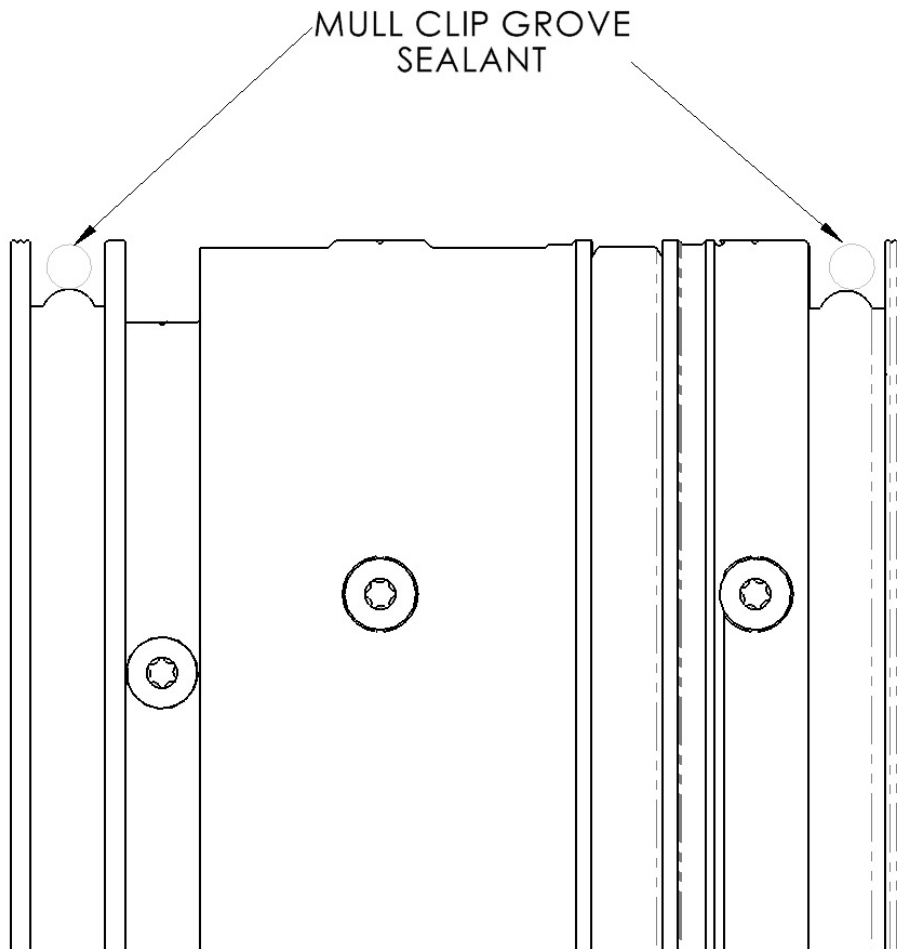

Figure 3
1. Apply a 1/4" diameter bead of Dow 795 sealant in each mull clip groove. (See Figure 3).